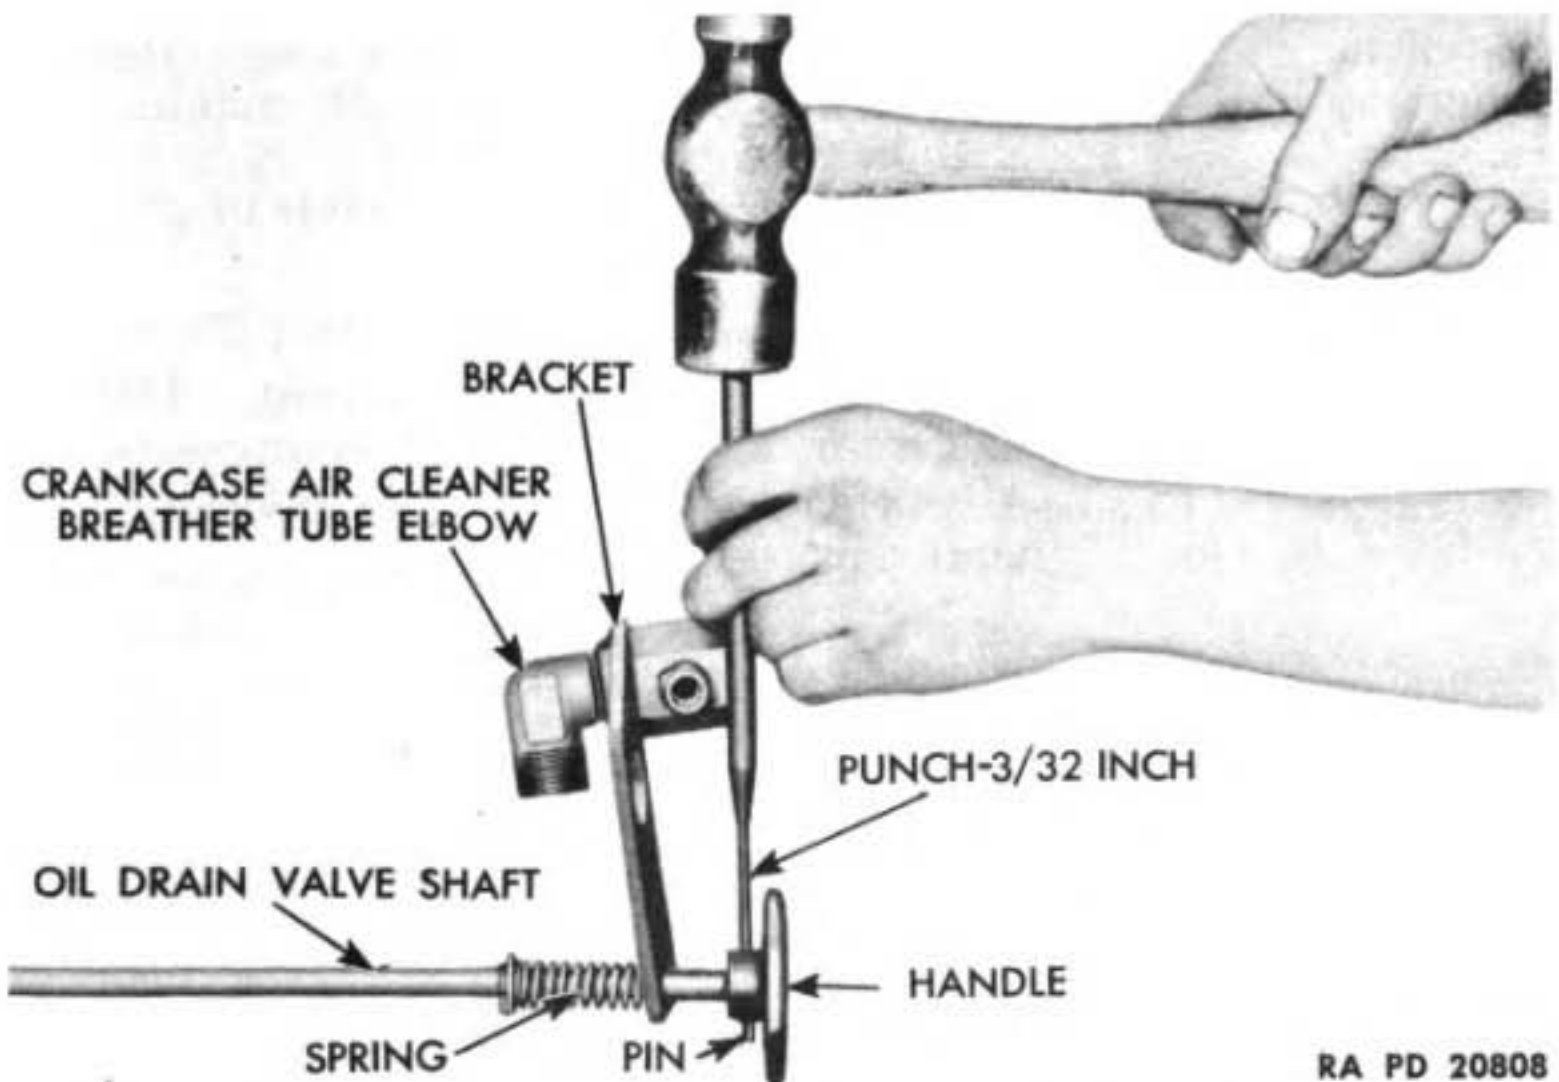

Figure 76 — Removing Oil Drain Valve Shaft Handle
b. **Repair.** Drive out pin holding handle to shaft (fig. 76), and pull off handle. Remove bracket and spring from rod. Replace spring and bracket on rod. Drive handle onto shaft, making sure pin holes in shaft and handle line up. Drive in a $\frac{1}{8}$ x $\frac{7}{8}$ -inch straight pin to secure handle to shaft. Rivet both ends of pin.